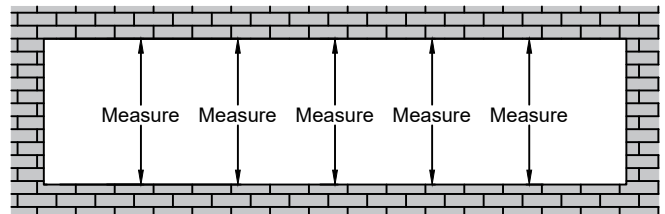

Fig.23.3
- C. Measure the height of the opening at several points along the entire width of the opening. Select the smallest of these dimensions and subtract the top and bottom caulk joint height per approved shop drawings ($\frac{1}{4}$ " minimum caulk joint at sill. At head, caulk joint can be $\frac{1}{4}$ " using T14055 or similar flashing. When using T14259 or E14059 sill flashing, head caulk joint must be $\frac{3}{8}$ ".) **SEE Fig.23.3.**